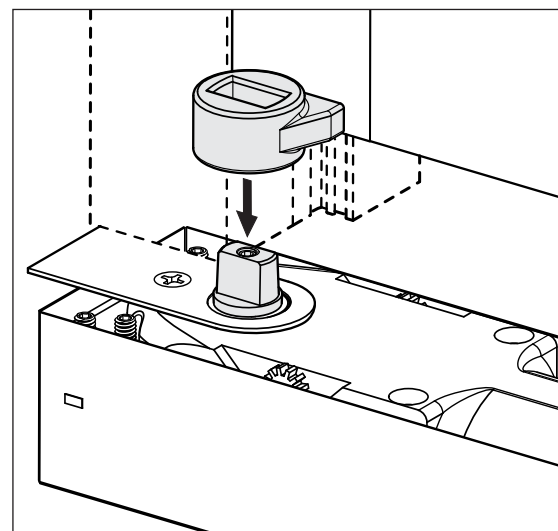

FIG. 9
4. Replace the closer mechanism if it was removed from the Cement Case. Ensure the removable clamps are engaged in their sockets and loosely tighten the clamp set screws to allow for adjustment. Secure the Spindle Cover with a 12-24 x 1/2" (M6-1.0 x 12 mm) flat head screw. (Fig. 9)
5. Position the door over the floor closer and align the Bottom Pivot Arm over the Spindle. Try to keep the door as vertical as possible to avoid excessive torque on the Spindle. (Fig. 9)